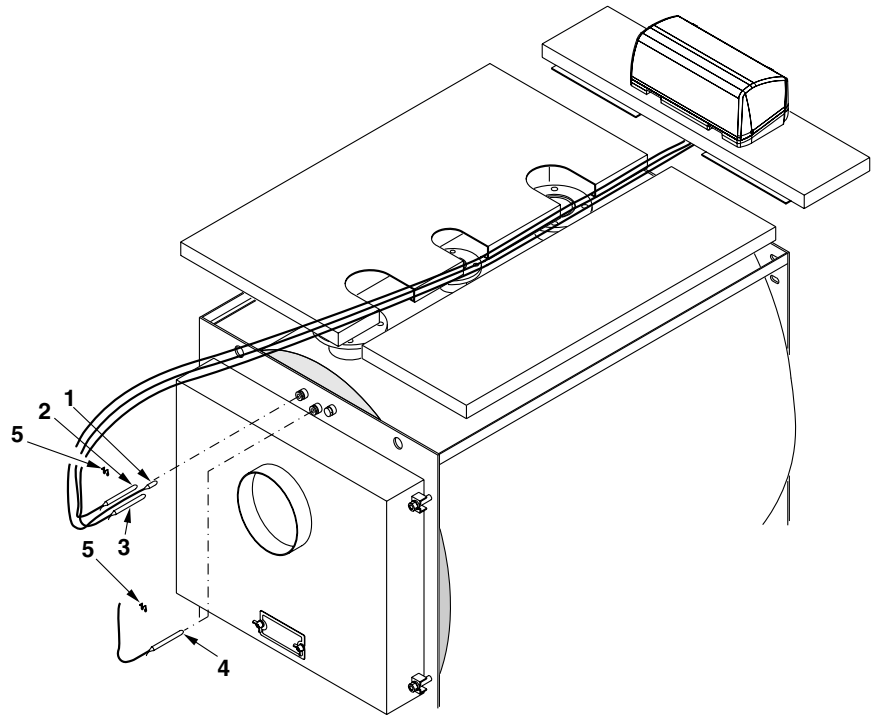

fig. 25
E) Insert the thermometer and thermostat bulbs in the bulb holders as shown in fig. 25 and connect the mains, the burner, the pump(s) and any ancillary equipment to the panel board.